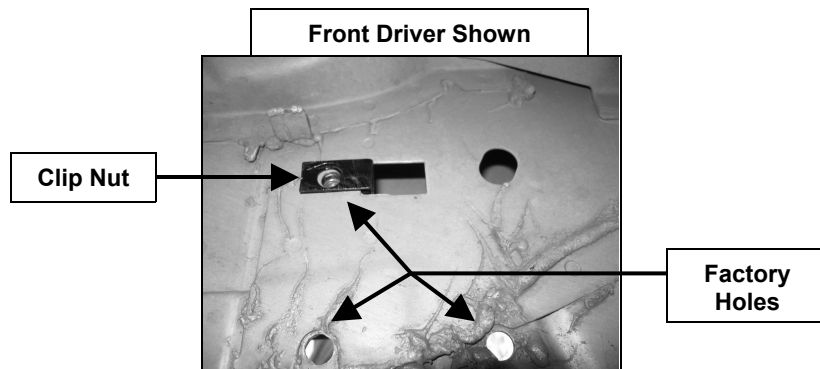

Figure 1
- Install the 10mm Clip Nuts (*Figure 1*). **NOTE:** The rear mount will required (2) Clip Nuts and the front only (1).
- Loosely attach the Driver Side Brackets to pinch weld using the included (2) 10-1.50mm x 40mm Hex Head Bolts, (4) 10mm Flat Washers, and (2) 10mm Lock Washers (2 & 3)).